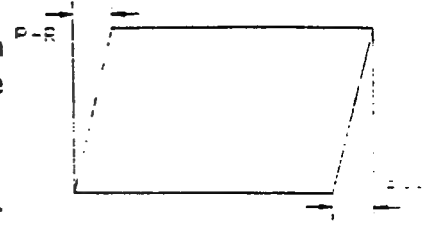

Figure 11
3. Press and rotate the Encoder to let $P-R \leq 1.5$ mm. (See Fig 11).